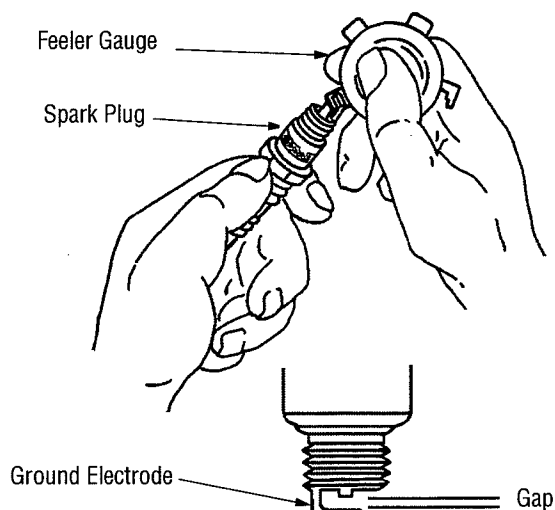

Figure 18
6. Check the gap using a feeler gauge and adjust, if necessary, by carefully bending the ground electrode. See Figure 18. Set the spark plug gap to 0.030 in (0.76 mm).